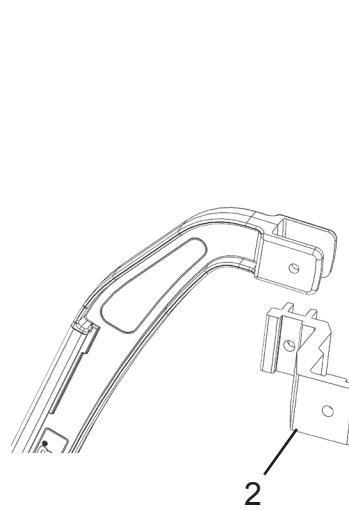

Figure 2
- Orient the adapter bracket as shown in Figure 2 and slide the open end of the stair climber onto the adapter bracket.